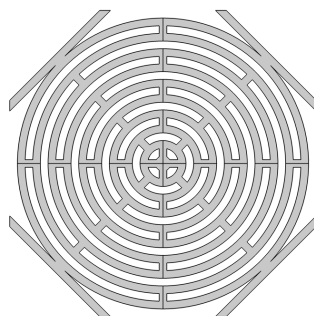

Figure 1: Unit cell.
- You will find a COMSOL file called “ProjectWork24” on Moodle in the “Evaluation” section. The model in this file represents the unit cell shown in Figure 1, and the numerical simulations must be performed in this file.
The tasks in this part are to be performed for the unit cell shown in Figure 1. The unit cell has the same symmetry class as the unit cell discussed during the lecture.